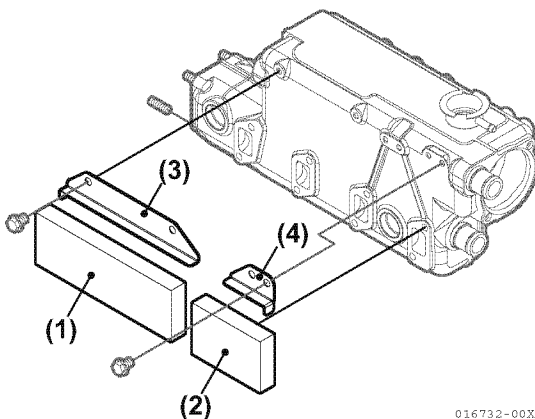

Figure 7-25
7. The noise absorbers A and B (**Figure 7-25, (1), (2)**) are installed between the heat exchanger and cylinder head for 3JH5E / 4JH5E (only one piece) and 4JH4-TE / 4JH4-HTE engines. Replace if the absorber deteriorates.
- Avoid damaging covers A and B (**Figure 7-25, (3), (4)**).